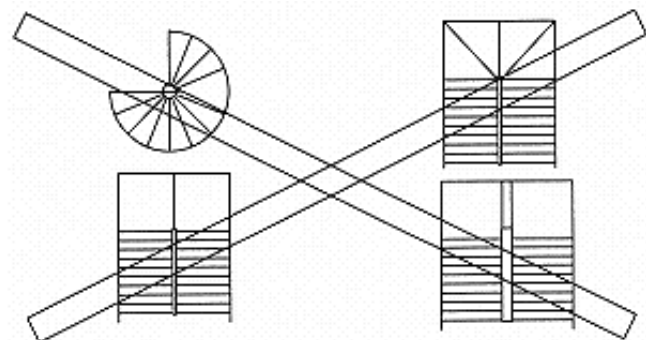

Fig. 1
- Circular stairs and stepped landings should be avoided (fig. 1).